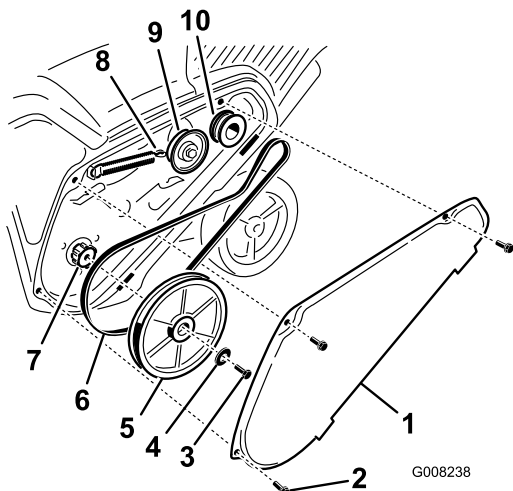

Figure 38
1. Remove the drive belt cover by removing the 3 bolts as shown in Figure 38.
2. Unhook the brake spring from the idler arm to release the belt tension (Figure 38).
3. Remove the screw and curved washer that holds the rotor pulley (Figure 38).
4. Remove the rotor pulley and the drive belt (Figure 38).
Note: Route the new drive belt first around the engine pulley, then the idler pulley, and finally around the loose rotor pulley positioned just above the rotor shaft (Figure 38).
6. Install the rotor pulley onto the rotor shaft (Figure 38).
7. Install the curved washer and the rotor pulley bolt and tighten them securely (Figure 38).